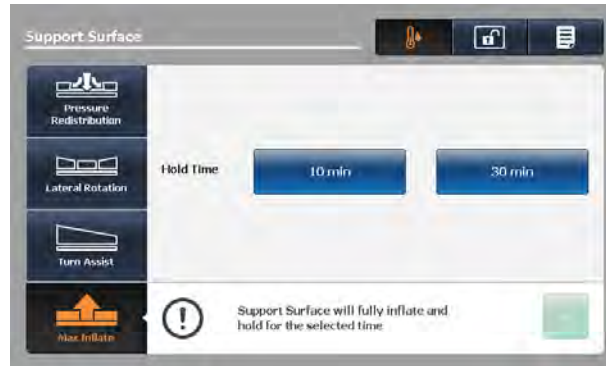

Figure 1-65: Max inflate screen
1. Tap **Max Inflate** (Figure 1-65 on page 1-70).